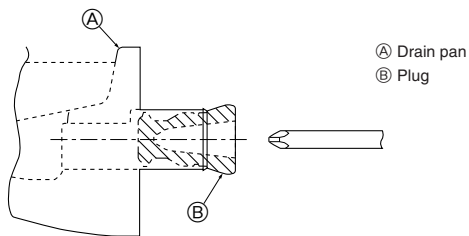

Fig. 5-1
5.1. Preparation for left side tubing installation (Fig. 5-1)